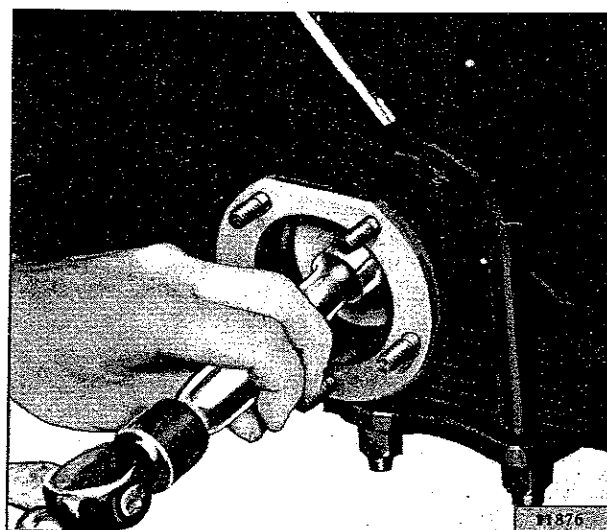

FIG. N-13—OIL SEAL DRIVER
Oil Seal Driver W-186, Fig. N-13.
g. Wipe axle housing tube seal bore clean and install a new oil seal using driver tool W-186, as shown in Fig. N-13.